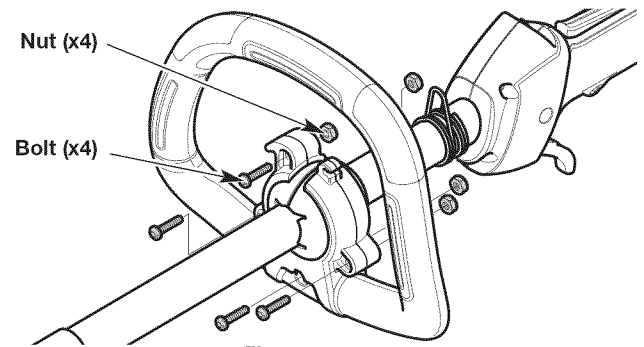

Fig. 5
5. Insert a nut into one of the hexagonal recesses in the back of the rear handle bracket (Fig. 5). Make sure the round side of the nut faces outward. Hold the nut in place with a finger. Insert a bolt into the corresponding hole in the front handle bracket (Fig. 5). Tighten the bolt with a flat-head or T20 Torx® screwdriver. Repeat this step until all four (4) bolts are securely installed.